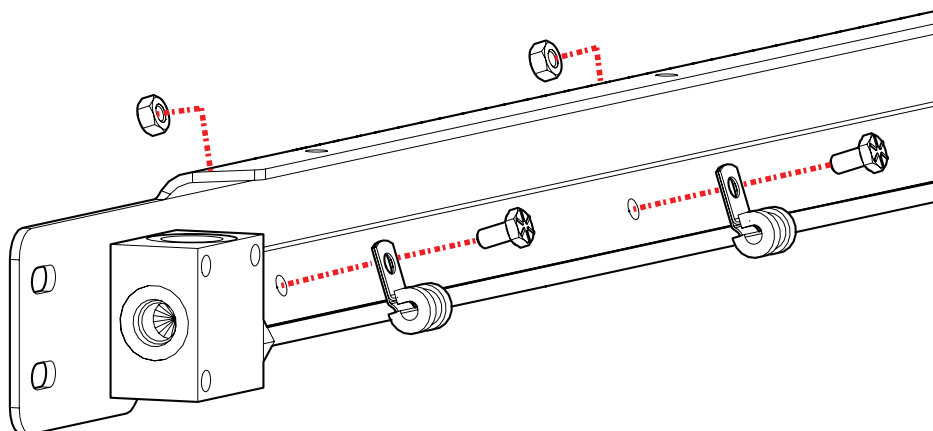

Figure 10: Remove and retain the bolts, nuts, and clamps that secure the trigger line to the rail.
5. Remove and retain the bolts, nuts, and loom clamps that secure the trigger line to the rail (Figure 10). Quantity is dependent upon the CNG system and length of the trigger line/rail.